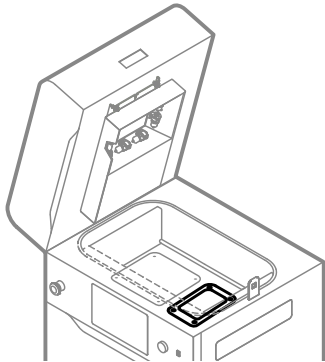

Fig. 12.28 Put on the Print Bed cover.
22. Put on the Print Bed cover (fig. 12.28).